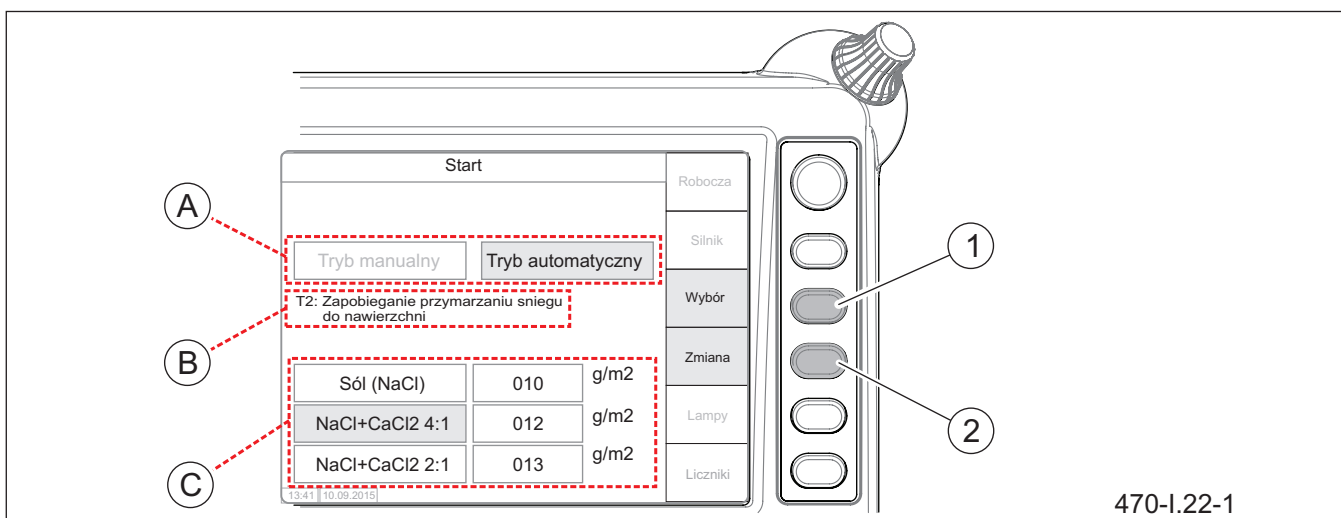

Figure 5.23 Select automatic mode
- on the "Start" home page of the control panel (Figure 5.23), use button (1) to check the box (A) for selecting the operating mode,
- select "Automatic mode" by means of push-button (2) "Change",
- by means of push-button (1) "Selection",
- by means of push-button (1), mark field (C) and then, by means of push-button (2) „Change”, select (C) type of material to be spread that is currently in the tank (automatic mode can not be selected for „Sand”).